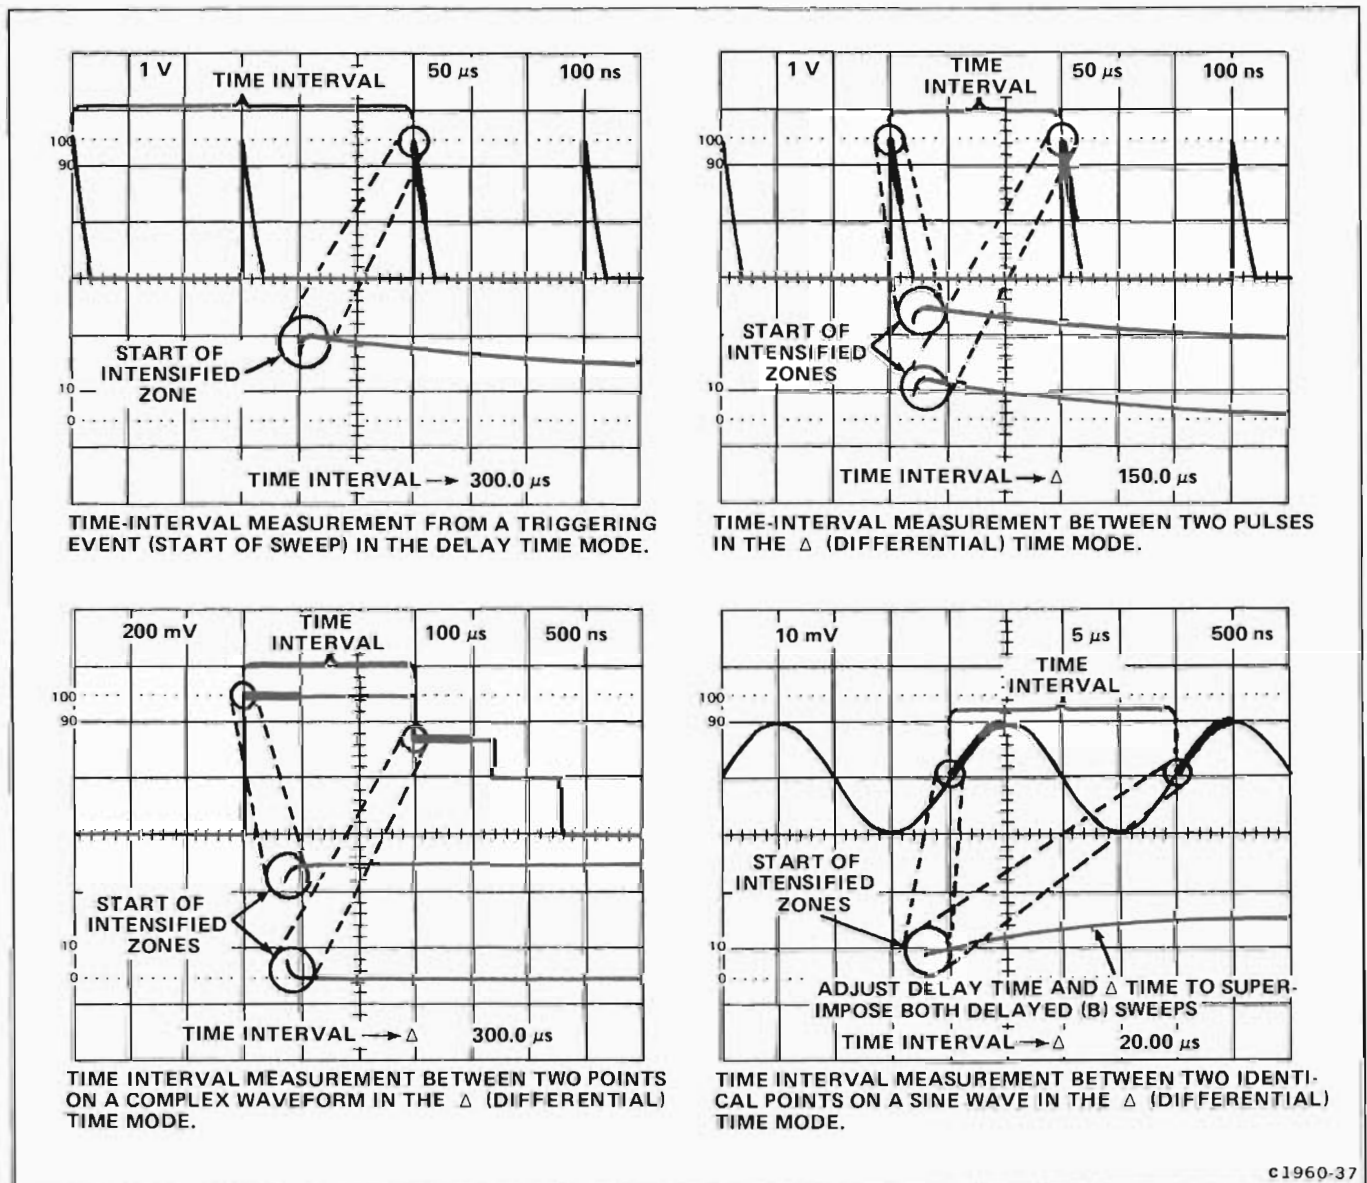

Figure 2-10. Time-interval measurements in the delay-time and Δ (differential) time mode with mainframe alternate or chopped operation.
b. Set the appropriate triggering, position, deflection factor, and sweep-rate controls for the desired dual-trace display. See the examples in Figure 2-10.
- c. Turn the DELAY TIME (and delta TIME) control(s) to position the intensified zone(s) for the precise time interval to be measured using the magnified delayed (B) sweep waveform(s). See the examples in Figure 2-10.